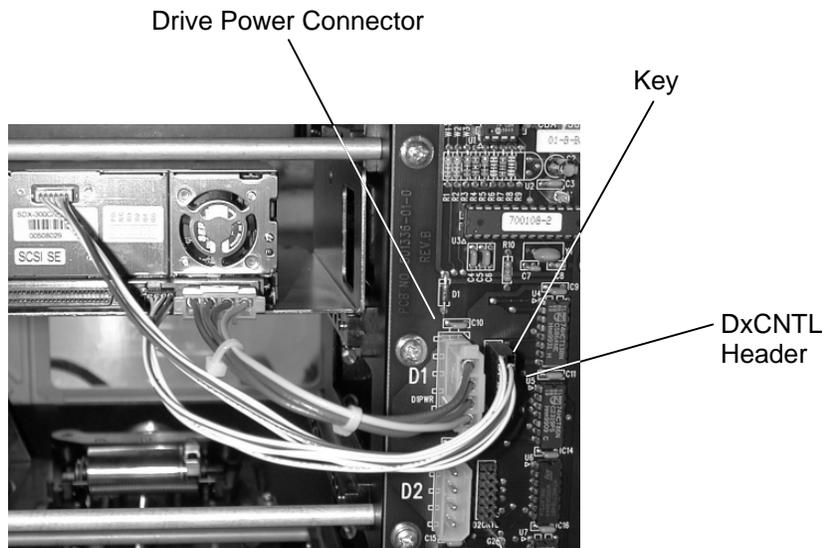

Figure 3-12 AIT Control and Power Cables
2. Connect the AIT Control Cable to the corresponding DxCNTL header on the Drive Bay board. Note the connector is keyed. See Figure 3-12.